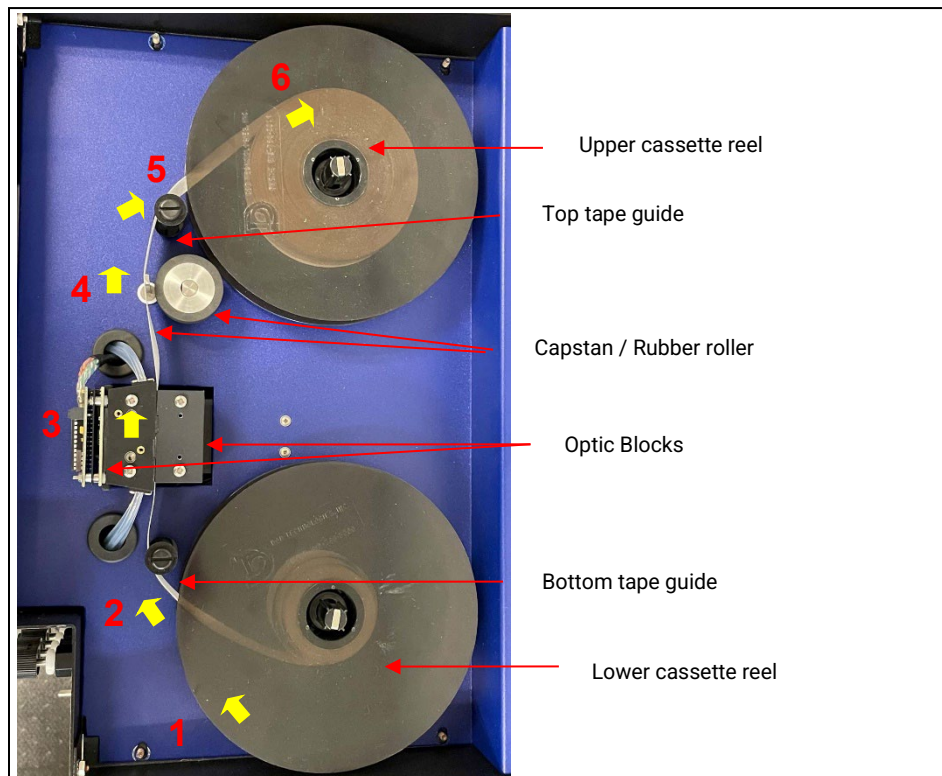

Figure 6.1
- E. Secure the new ChemLogic reel on the right side as shown in Figure 6.1. This should be around the tape guide in a clockwise direction as shown.
- F. Feed the tape as shown with the arrows in Figure 6.1.